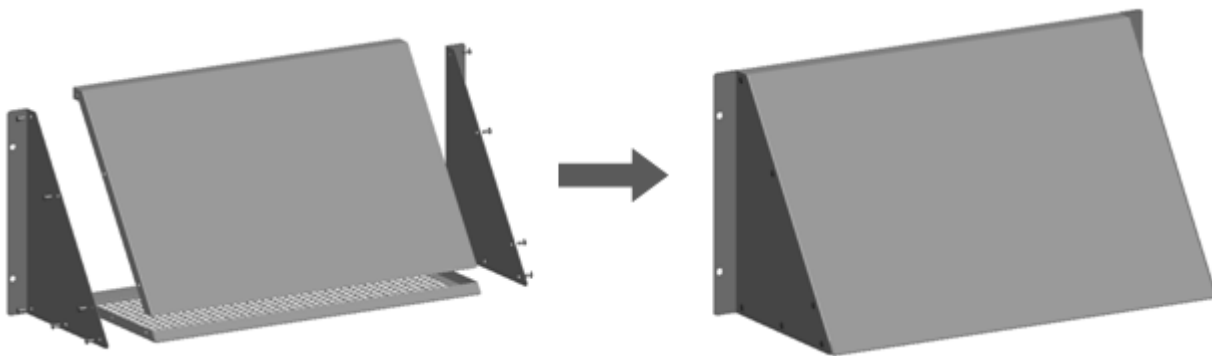

Fig 4.2.3
- Assemble the cowl as shown in Fig 4.2.3.